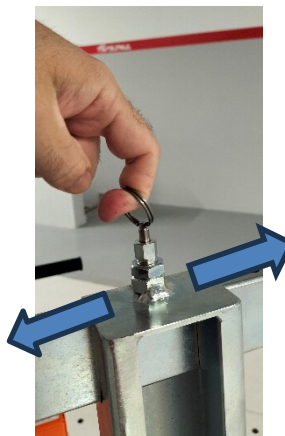

Fig 1
2. **Unlocking Pins:** Locate the spring pins that secure the forks. To unlock, grasp the ring on the pin and pull firmly (fig. 1). This will allow free movement of the pin.
2. **Identification of Docking Points:** Locate the specified attachment points (fig.1). These points are designed to support the weight of the machine and ensure safe lifting.